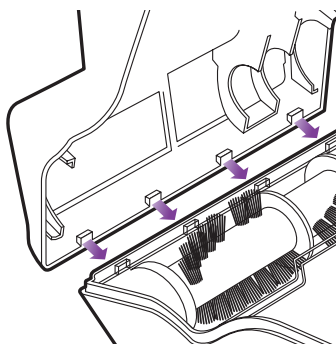

Fig. 16
- To reassemble, first insert the tabs on the front edge of the cover into the matching holes in the top half of the Power Brush and tilt the cover back down pressing until it clicks into place. (fig. 16)